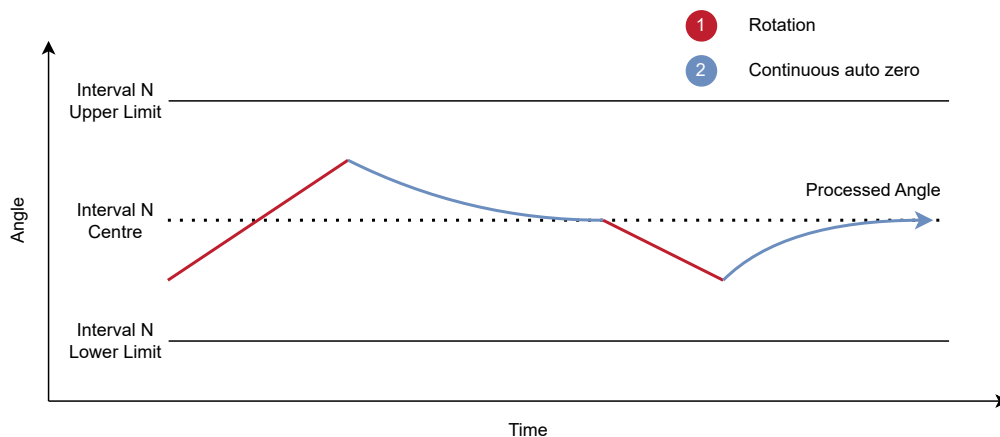

Figure 6.5: Continuous Auto-zero Behaviour
- > **Continuous:** The auto-zero filter will cause the Processed Angle to move continuously towards the centre of the current interval. It is recommended to use an auto-zero beta value of 10 or higher to allow the Processed Angle to move between intervals during slower rotations. This mode is recommended for devices without a mechanical ratchet. This behaviour can be viewed in Figure 6.5.